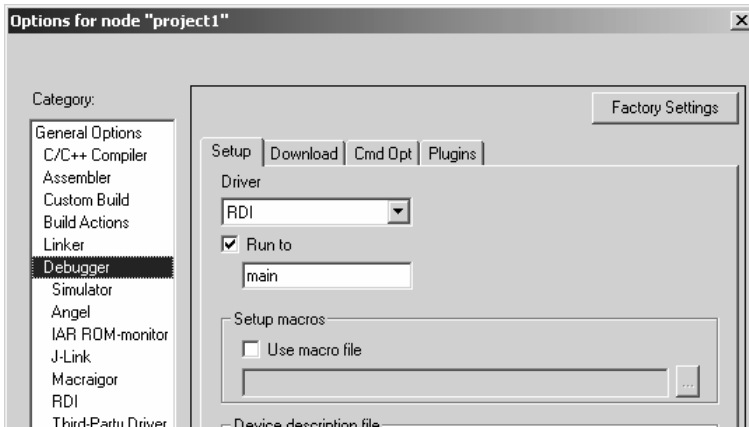

FIGURE 14 Selecting the driver type for C-Spy.
5. Choose Options from the Project menu. The Options for Target dialog box appears. Select the Debugger category. In the Setup tab, choose RDI as the driver (Figure 14).